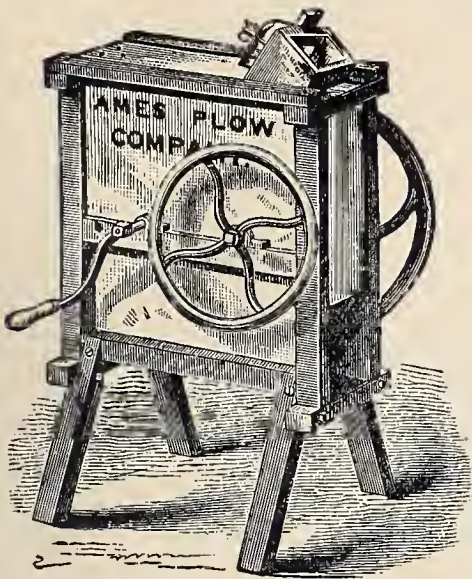

Fig. 411. — D. L. Corn-Sheller.
*The D. L. Corn-Sheller*, represented by *Fig. 411*, is similar in its working-parts to the CLINTON, but is made with removable legs. The same variety of kinds are made as of the CLINTON SHELLER.